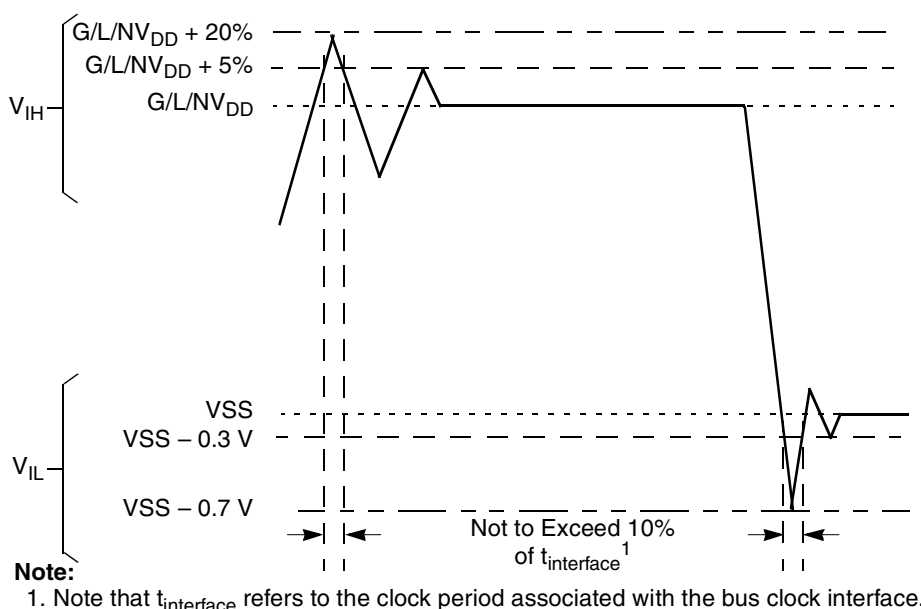

Figure 2. Overshoot/Undershoot Voltage for GVDD/NVDD/LVDD
- (M, L, O)V_{IN} and MV_{REF} may overshoot/undershoot to a voltage and for a maximum duration as shown in Figure 2
Figure 2 shows the overshoot and undershoot voltages at the interfaces of the device